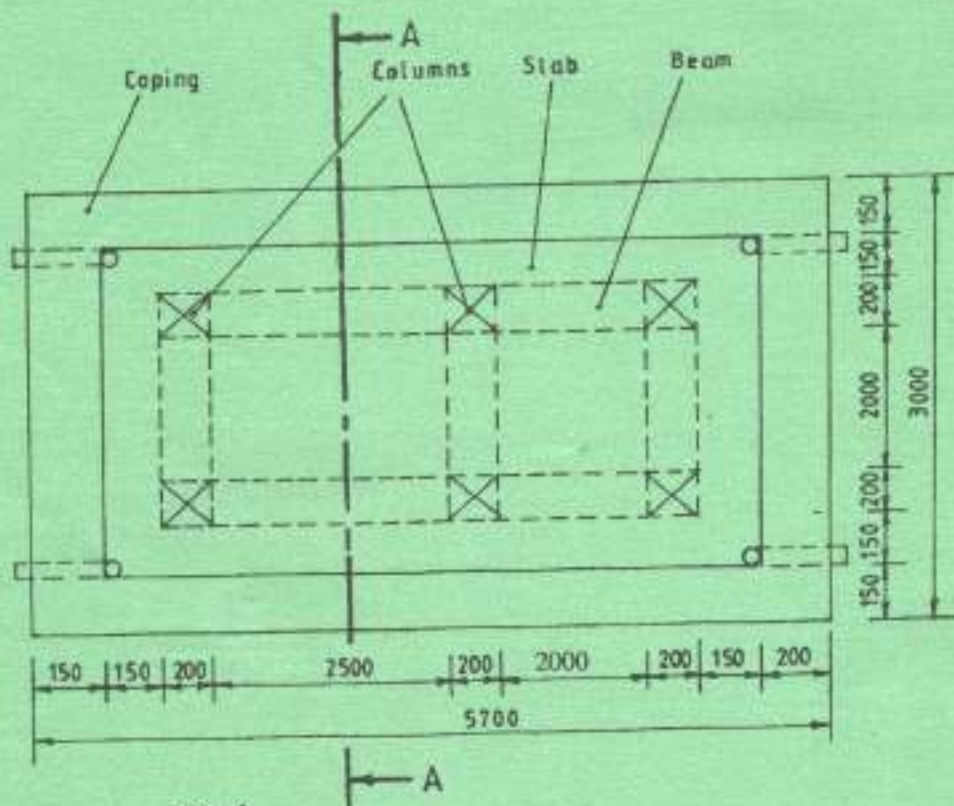

Fig. 6
7. Figure 6 shows the outline of a reinforced concrete deck for a water tank. Using a scale of 1:20 draw section A-A. Use the information given. (20 marks)